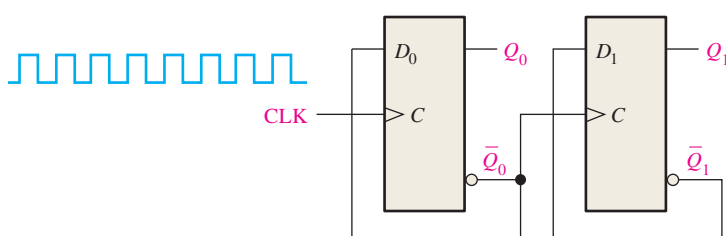

FIGURE 9-65
3. For the ripple counter shown in Figure 9-65, show the complete timing diagram for eight clock pulses, showing the clock, Q_0 , and Q_1 waveforms.